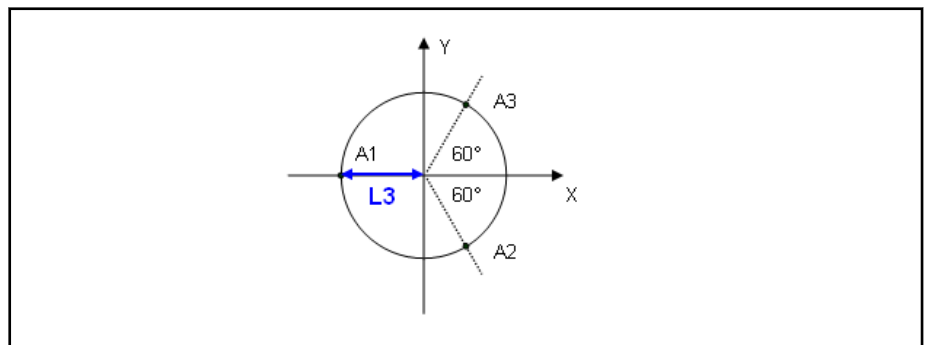

Fig.4-12: Radius L3 of the motor base and the coordinate system (X-Y view)
- L_3 is the radius of the perimeter formed by the three motor spindles (or gears) measured at the rotary center points of the arms (see fig. 4-12 "Radius L_3 of the motor base and the coordinate system (X-Y view)" on page 85).
- The Cartesian zero point for the delta robot is at the center point of the perimeter defined by the three motor spindles (see also fig. 4-12 "Radius L_3 of the motor base and the coordinate system (X-Y view)" on page 85).